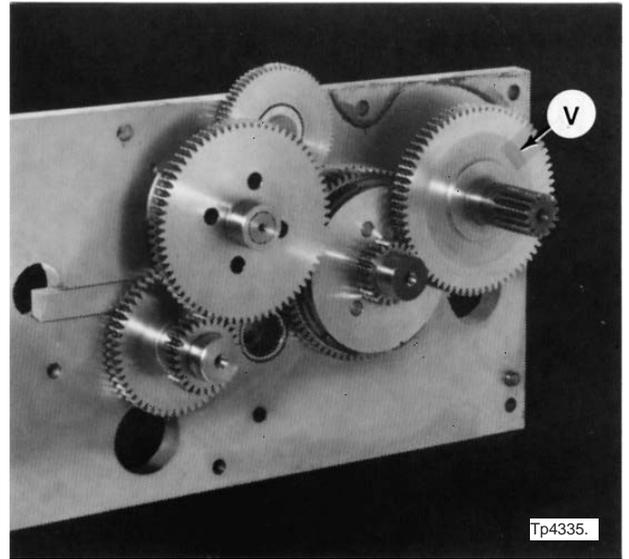

Figure 1.8 - Apron Cover Assembly
15. Remove rack pinion and 70 tooth gear "V", Figure 1.8 .
13. Replace rack pinion and 70 tooth gear “V”, Figure 1.8 .